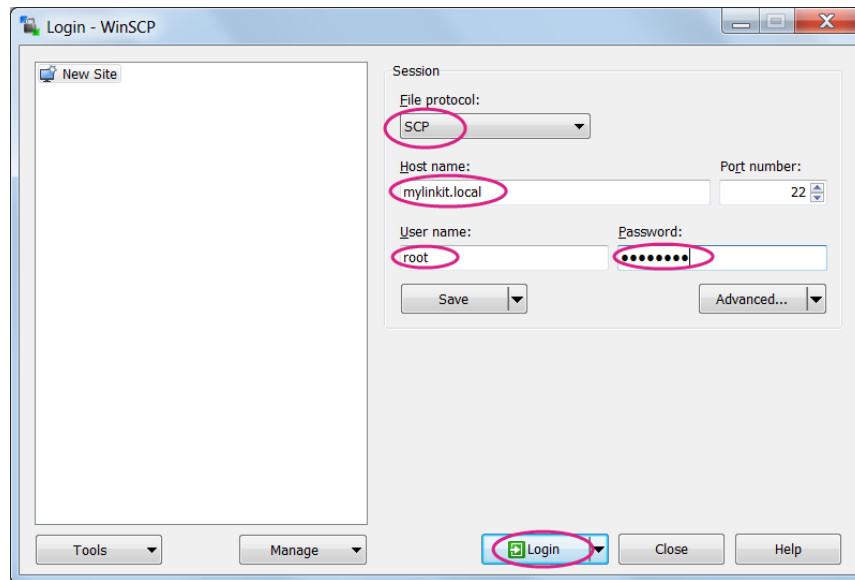

Figure 34 WinSCP login window
- b) Select SCP for file protocol, enter **mylinkit.local** in the host name box, **root** for user name and password you set in Web UI. Click Login as show in Figure 34 .